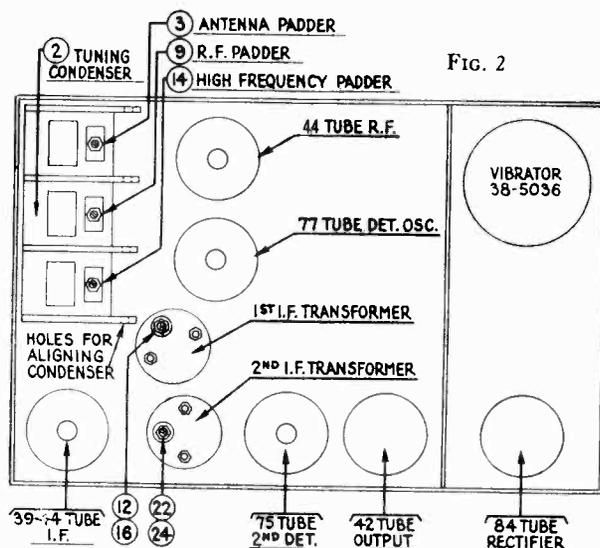

Fig. 2
Remove the speaker lid from the Receiver. Remove the grid cap terminal from the 77 tube (for location see Fig. 2).
Set up the signal generator and adjust it to exactly 260 K. C. Connect the generator lead to the grid cap of the 77 tube. (See Fig. 2.) The output meter must be connected.
The padders ② and ④ are adjusted first (Figs. 2 and 3). Turn the adjusting screw ② all the way in. A metal screwdriver can be used for this. Then, with generator attenuator set so there is approximately half-scale reading, adjust the nut ④ with a fibre wrench for the maximum reading on the output meter.
There are four holes in line, one in each of the sections of the tuning condenser housing. (See Fig. 2.) Place a nail of the size that fits snugly through the holes and then turn the condenser plates out of mesh until they strike against the nail.